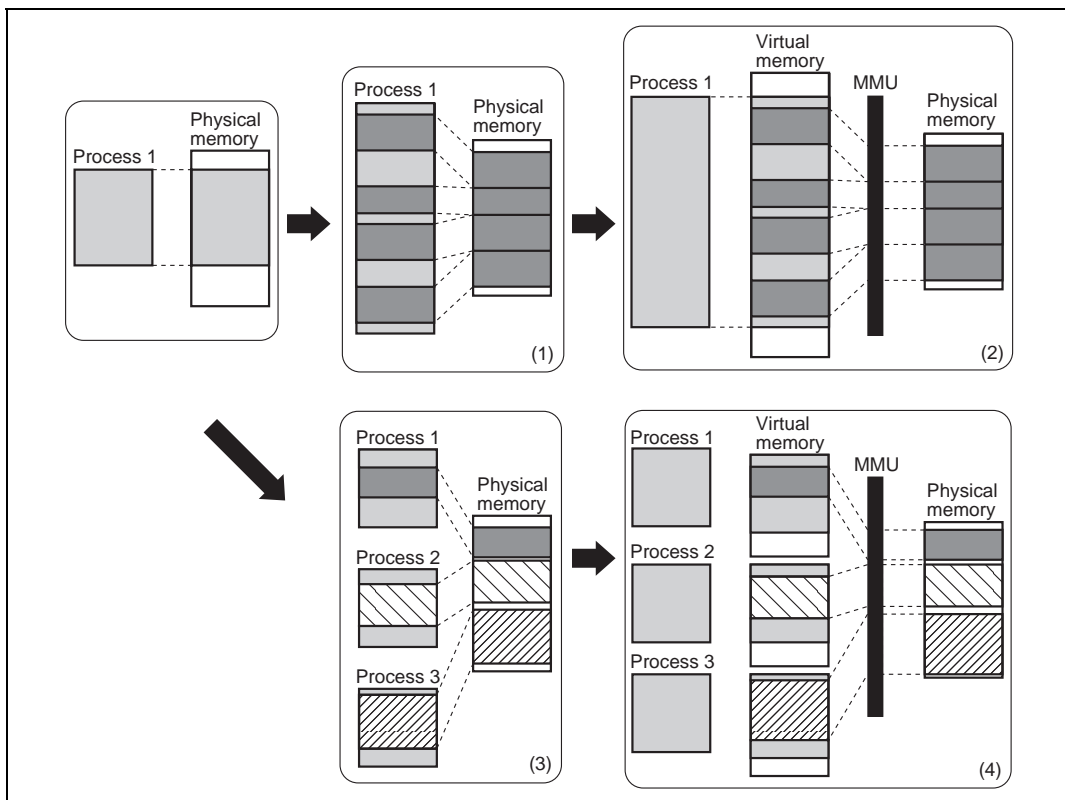

Figure 3.1 MMU Functions
The MMU is a feature designed to make efficient use of physical memory. As shown in figure 3.1, if a process is smaller in size than the physical memory, the entire process can be mapped onto physical memory. However, if the process increases in size to the extent that it no longer fits into physical memory, it becomes necessary to partition the process and to map those parts requiring execution onto memory as occasion demands (1). Having the process itself consider this mapping onto physical memory would impose a large burden on the process. To lighten this burden, the idea of virtual memory was born as a means of performing en bloc mapping onto physical memory (2). In a virtual memory system, substantially more virtual memory than physical memory is provided, and the process is mapped onto this virtual memory. Thus a process only has to consider operation in virtual memory. Mapping from virtual memory to physical memory is handled by the MMU. The MMU is normally controlled by the operating system, switching physical memory to allow the virtual memory required by a process to be mapped onto physical memory in a smooth fashion. Switching of physical memory is carried out via secondary storage, etc.